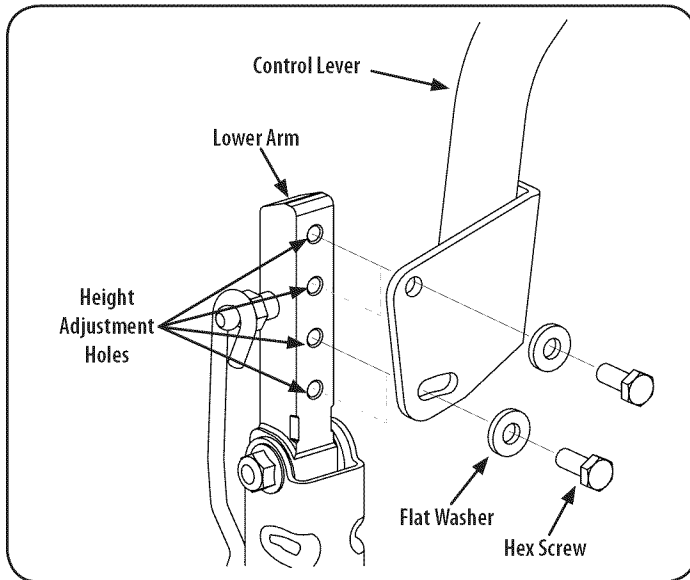

Figure 19
2. While supporting the control lever to keep it from falling, remove the hex screw and flat washer from the bottom of the control lever and lower arm. Refer to Figure 19.
1. If not already loose, loosen the hex screw and rotate the control lever either forward or rearward to the desired position. See Figure 19.